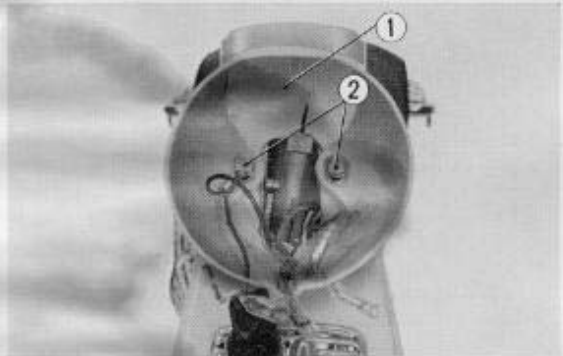

Fig. 4.31 Removing headlight case
2. Remove the headlight case ① by removing the two 6×25 hex bolts ② within the headlight case and the 6×40 cross screw. (Fig. 4.31)